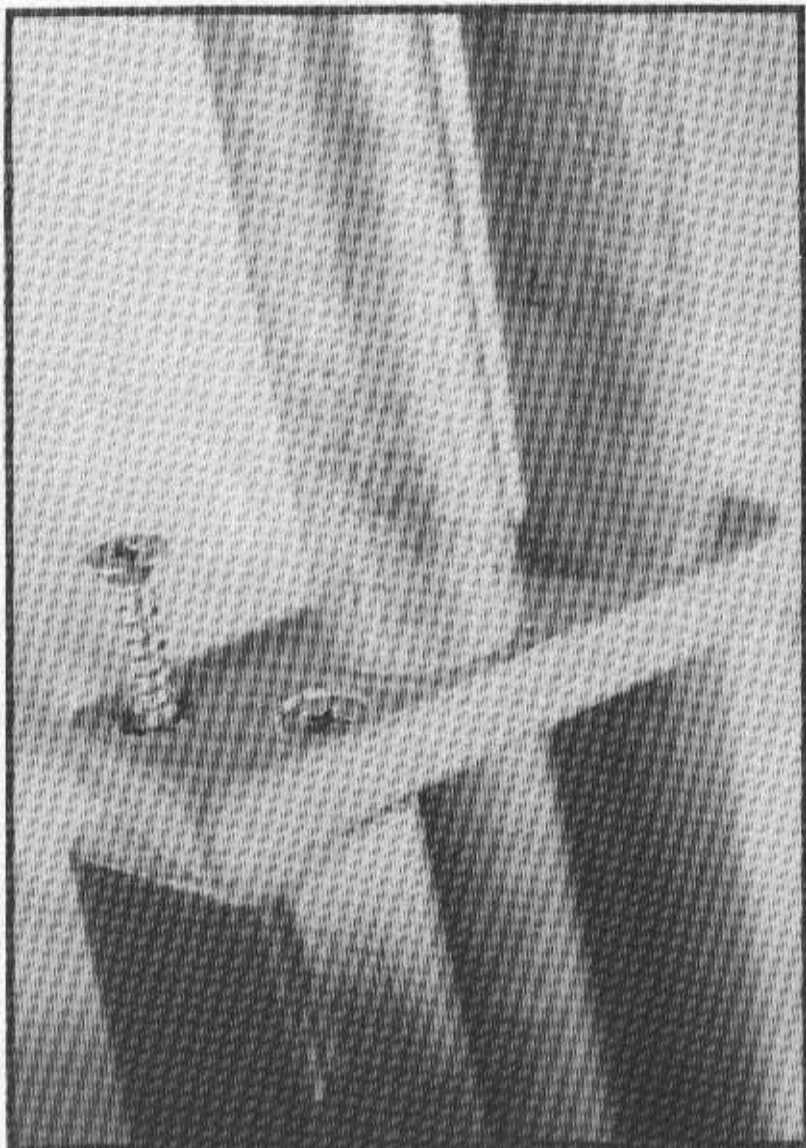

Figure 4-9
13. Insert both barrels through the hardwood and fasten into the end of the foregrip with *one* screw. That screw acts as a pivot and you can wiggle the barrels back and forth until they are properly aligned (parallel). Then, put in the second screw. See Figure 4-9.